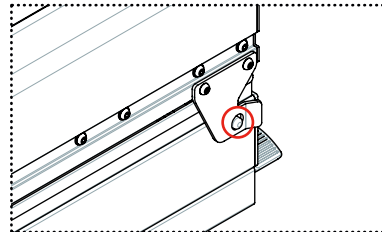

FIGURE 5
- ☐ Make sure that the hole in the locking piece of the removable rail is concentric with the shelf of the fixed rail (see Fig. 5), otherwise it could seize.